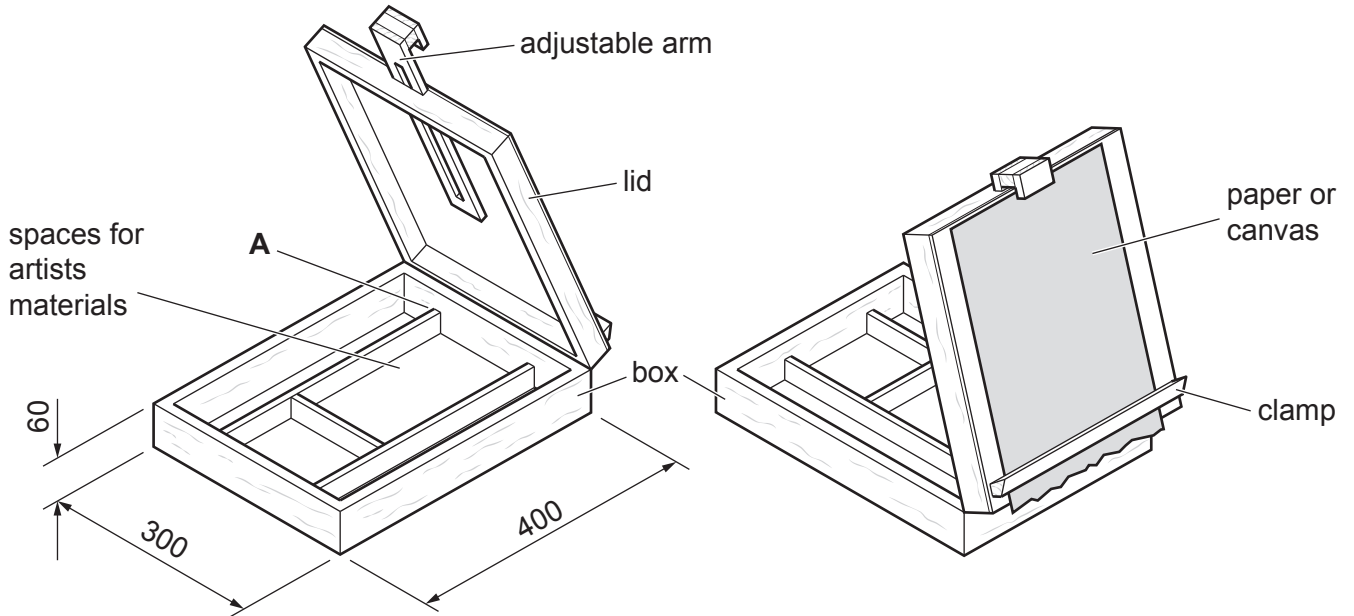
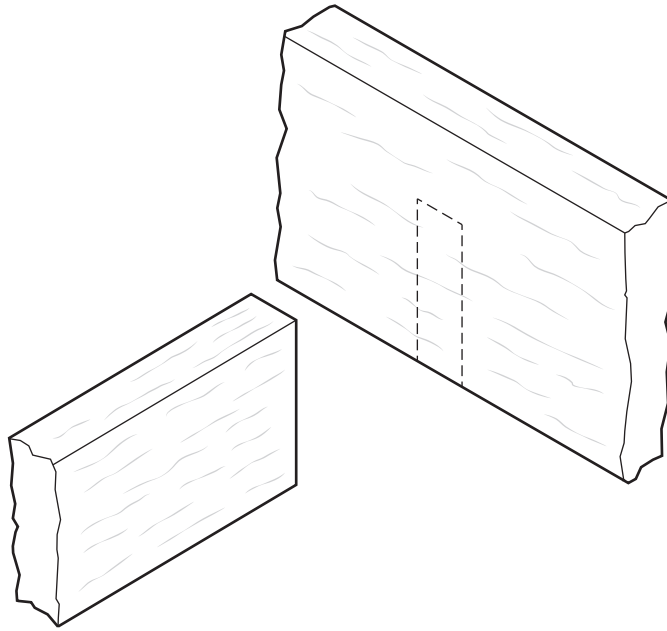

Fig. 11.1
Fig. 11.4
- 11** Fig. 11.1 shows views of an incomplete design for a desktop box easel. The outer frames of the box and lid are made of 15 mm thick hardwood. The top of the lid and the base of the box are made from 6 mm thick veneered plywood.
Fig. 11.4 shows part of the sides of the compartment shown at position **A** in Fig. 11.1.
Complete Fig. 11.4 to show a suitable construction that could be used to join the sides at **A**.